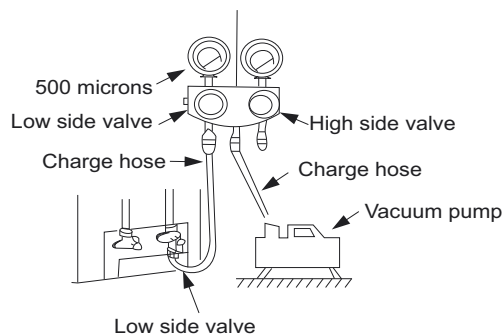

Fig. 21 — Manifold
3. Fully open the low side of manifold gage (see Fig. 21).